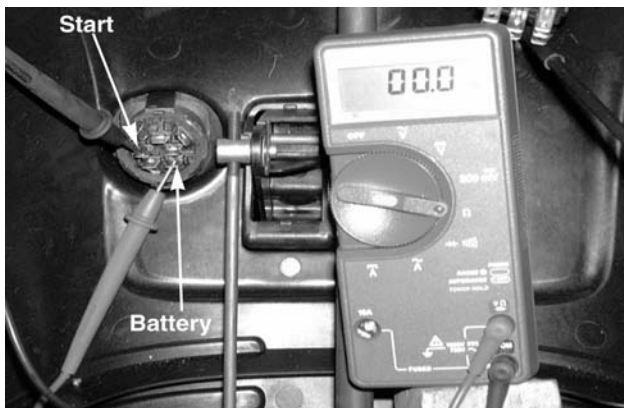

Figure 9-87
–There will be **CONTINUITY**. See Figure 9-87.